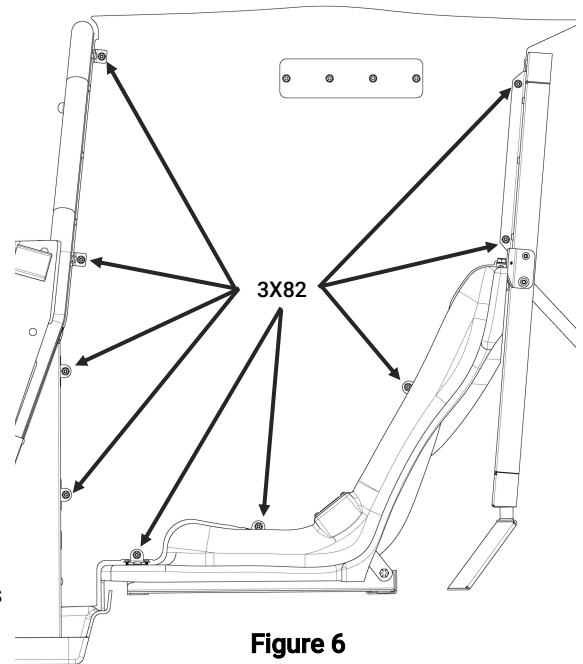

Figure 6
- E. From the passenger side insert a carriage bolt [3X82] through the divider and divider brackets in each of the (9) locations shown in Figure 6.